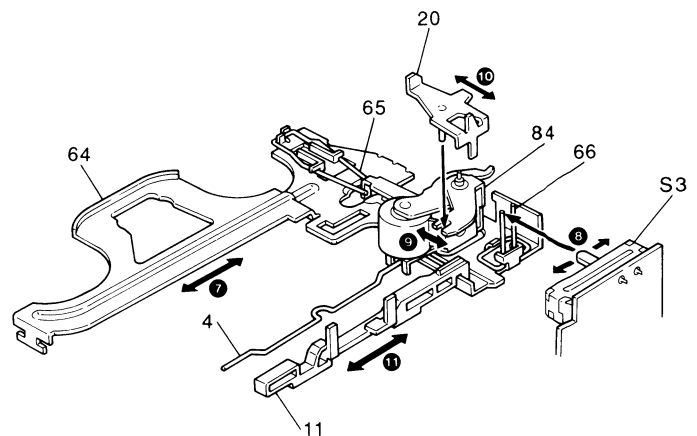

Fig. 8
4. The main plate (64) slides in direction of arrow (⑦) in Fig.8 causing the following part movements;
- a) Head switch (10) movement is changed per arrow (⑧)
- b) Force transferred from pinch roller spring (4) changes the relation of pinch roller and capstan to each other, per arrow (⑨).
- c) Seesaw plate (20) is moved by the main plate and seesaw plate spring (65), and moves seesaw working plate (84). All FF/REW operation is performed by this seesaw plate movement. See arrow (⑩).